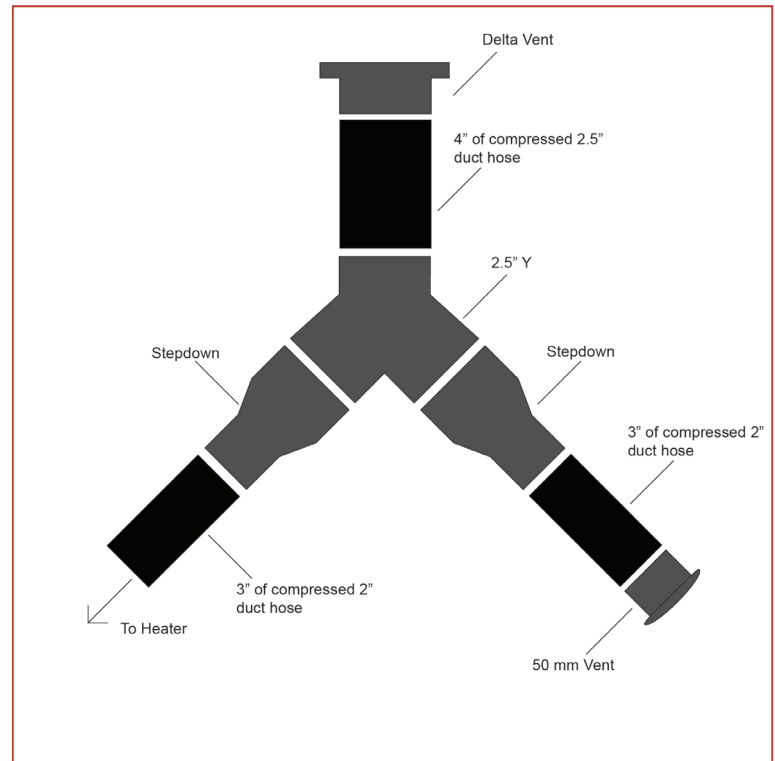

FIGURE 3
9. Connect the step downs to the duct hose. Two are supplied for each 2.5" Y. FIGURE 3